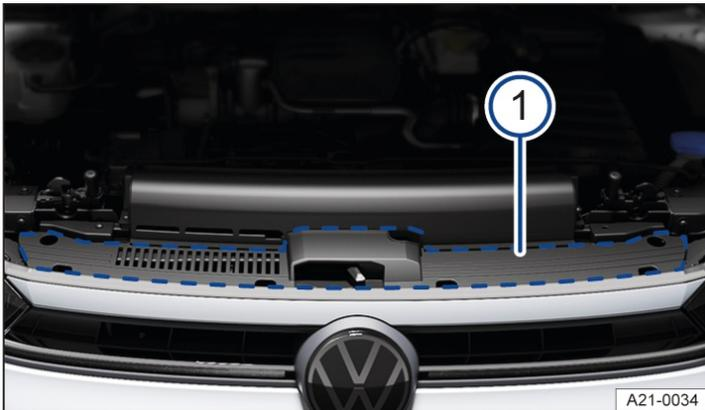

Fig. 1 In the engine compartment: sticker next to the bonnet release (illustration).
The sticker showing the prescribed standard is located in the engine compartment → Fig. 1 ①.